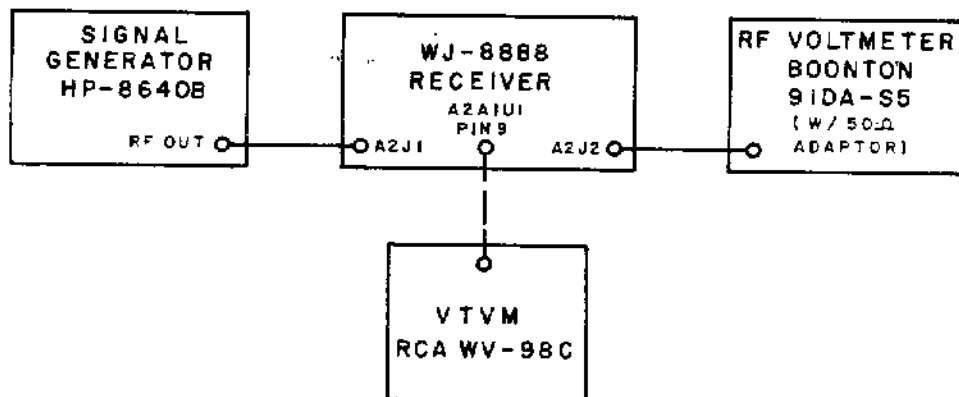

Figure 5-19. Test Setup, Overall Final Gain Test
- (1) Connect the equipment joined by the solid lines as shown in Figure 5-19.
(3) Set the signal generator for a -40 dBm 0.5 MHz unmodulated RF output. Tune the receiver to 0.5 MHz.
(4) Observe the reading on the RF voltmeter. It should be -35 dBm \pm 1 dB (the overall gain from J1 to J2 should be 5 dB \pm 1 dB).
(5) Rotate A1R6 fully counterclockwise and increase the signal generator RF output level to 0 dBm.
(6) Observe the reading on the RF voltmeter. It should be -40 dBm or less (the overall attenuation from J1 to J2 should be in excess of 40 dB).
(7) Repeat steps (2) through (4) for a signal generator and receiver frequency of 30 MHz.
(8) Disconnect the signal generator and set the VTVM to its 15 V dc range. Connect it to A2A1U1 pin 9 as shown by the dotted line in Figure 5-19.
(9) Adjust A2A1R6 for a VTVM reading of +6.2 V dc.